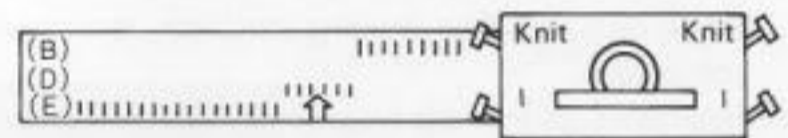

Fig.61
- Push back into position (D) from position (E) the required number of needles nearest the needles in position (B). (Fig.61)